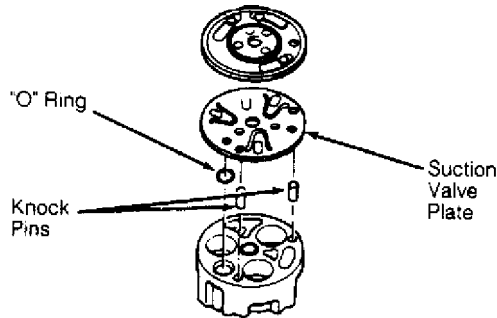

Fig. 10: Hitachi 6-Cylinder Compressor Front Cover Removal
3) Remove rear cover "O" rings, cylinder head, suction valve plate, 2 pins and "O" ring in order. With front facing downward, support compressor shell. Using a plastic mallet, tap at rear end of shell flange, driving shell straight downward. Discard front cover gasket. Detach front cover from cylinder assembly. Discard old "O" rings. DO NOT deform suction valve plate when removing. See Fig. 10.